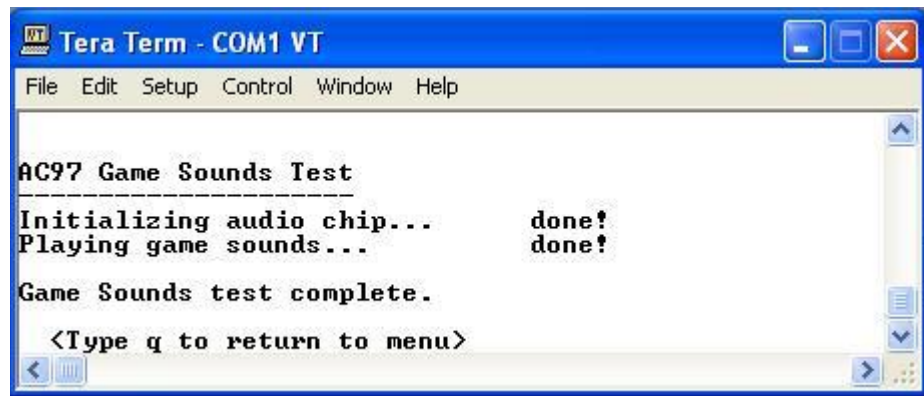

Figure D-18: Game Sounds Test Completion
3. The terminal window output for the Game Sounds test is shown in Figure D-18.